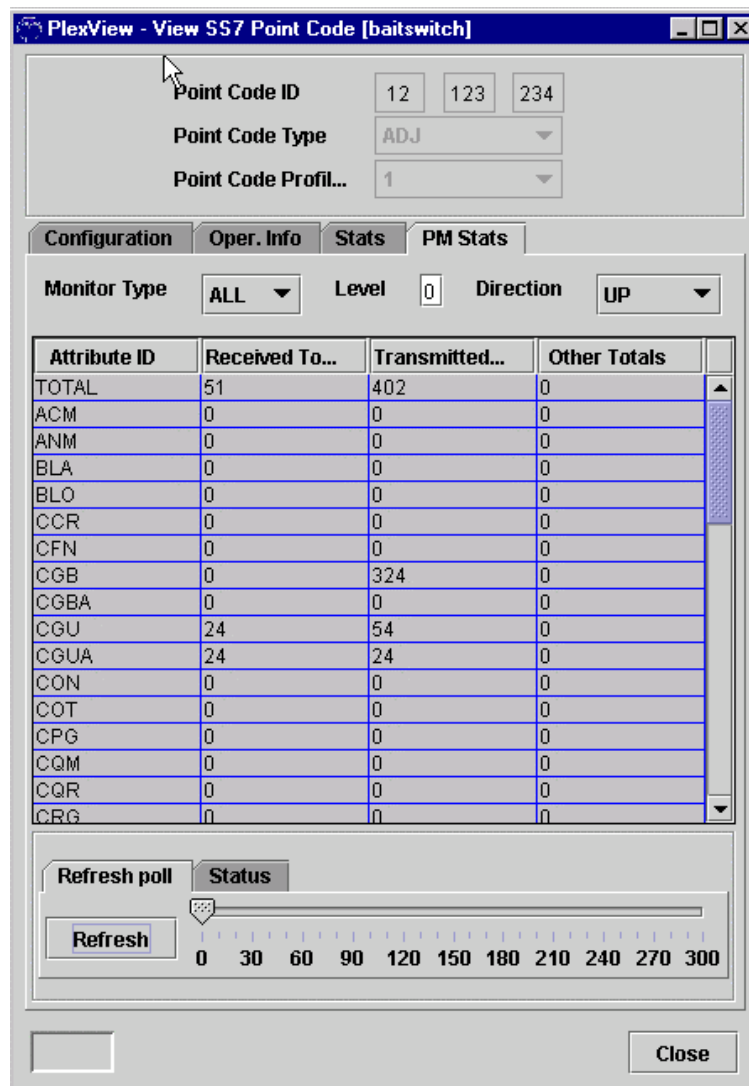

Figure 2. ISUP Messages PM Data
7. Retrieve current and historical performance data for ISUP messages received from a destination point code. Double-click the switch name in the switch status panel to select it for the main panel Double-click *SS7* and then *Point Codes*. Right-click an interface and select *View, PM Stats* and then click *Refresh* near the bottom of the panel for latest information. Refer to Figure 2.